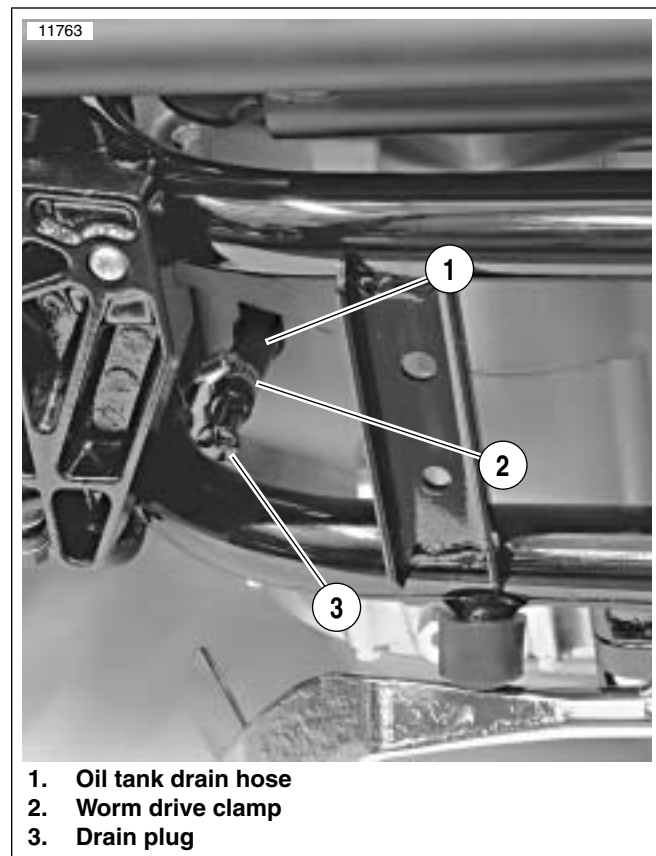

Figure 1-4. Oil Tank Drain Hose
2. See Figure 1-4. Place a suitable container directly under the drain hose (1) at the bottom rear of the engine crankcase. The container must be able to hold approximately four quarts (U.S.) (3.8 liters).
3. Loosen worm drive clamp (2) and pull drain plug (3) from end of drain hose. Completely drain engine oil from oil tank. It is not necessary to drain engine crankcase.